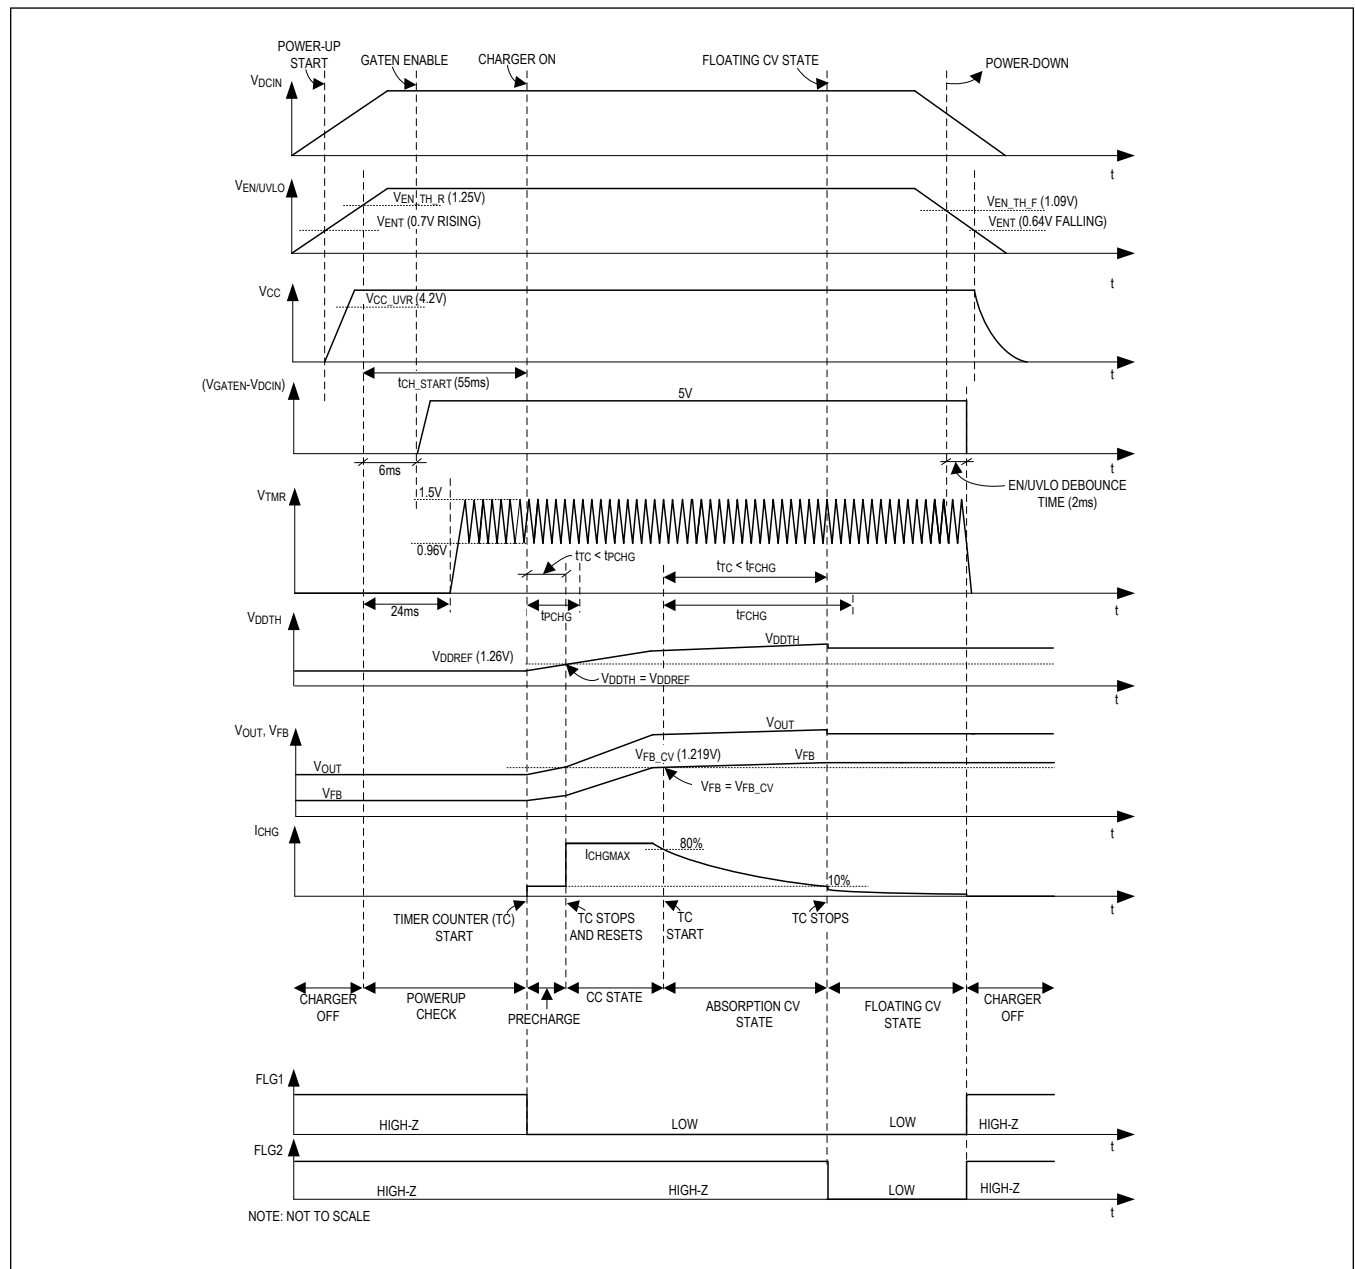
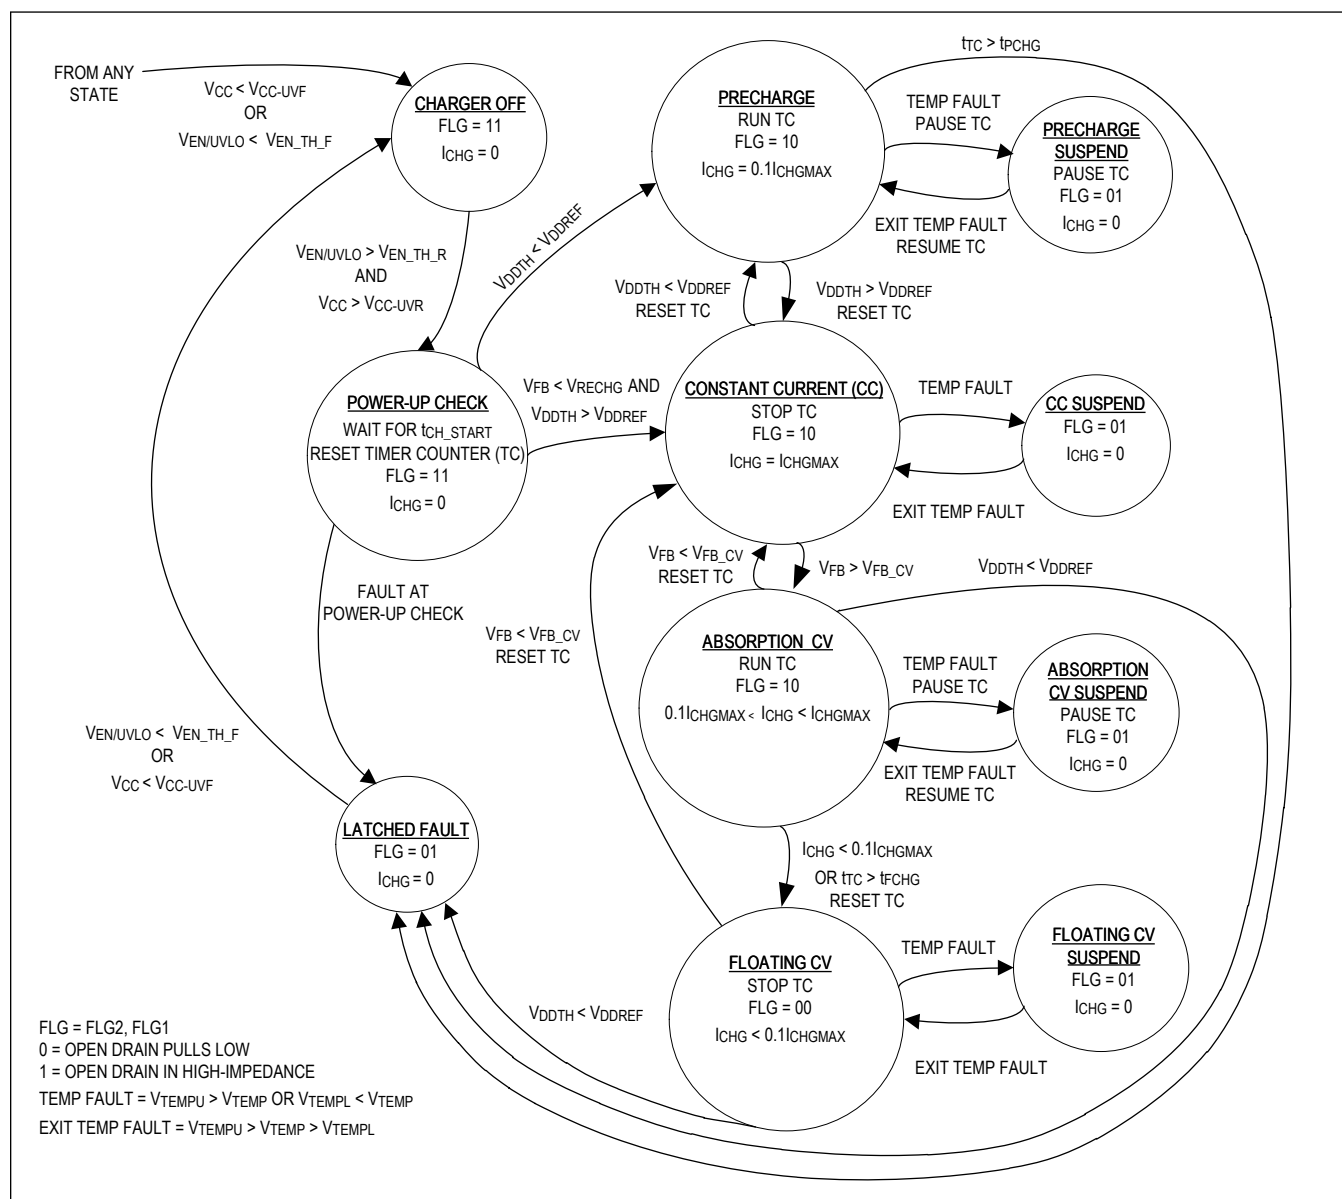

Figure 2. Charger Power-Up/Down Sequence and Pb-Acid Battery Charge Cycle
Figure 3. Charger-State Diagram
Figure 2 shows the MAX17702 power-up/-down sequence when DCIN voltage is applied/removed, and a Pb-acid battery charge cycle. Figure 3 shows the MAX17702 charger-state diagram of the IC. MAX17702 offers precharge, constant-current (CC), absorption constant-voltage (CV), and floating constant-voltage states for charging the Pb-acid battery.